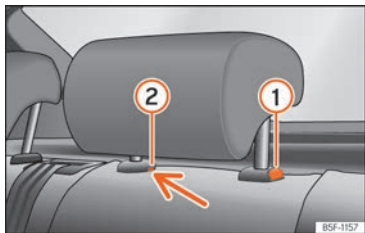

Fig. 110 Rear headrest: removal.
- Press button »» Fig. 110 ①, while simultaneously pressing on the security hole ② with a flat screwdriver a maximum of 5 mm wide, and remove the headrest.